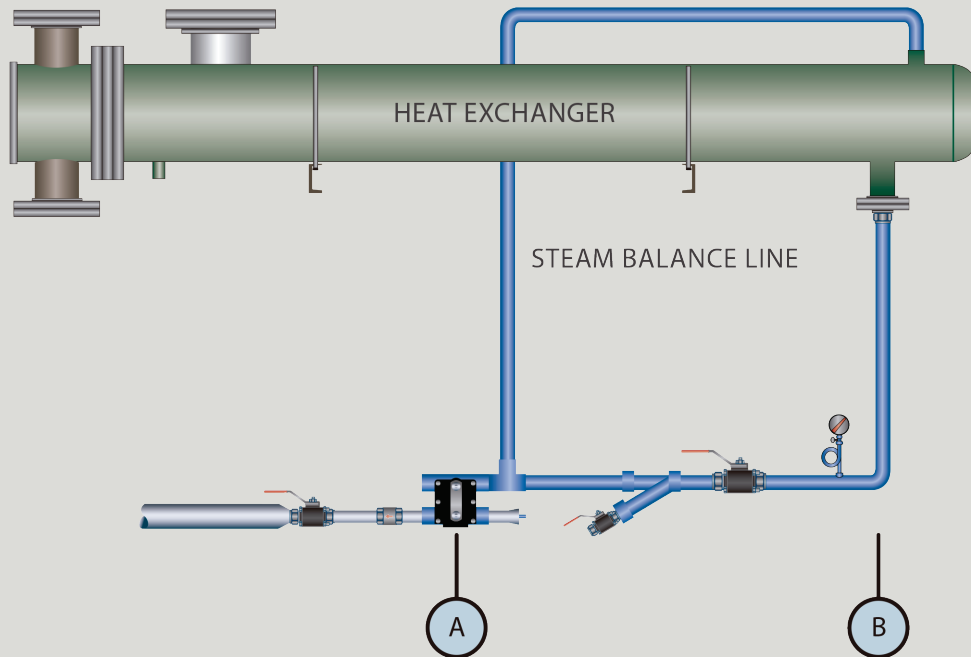

Figure 3. Steam Balancing a Steam Trap back to the Process
3. **Figure 3** shows the balance line being connected to the heat transfer unit